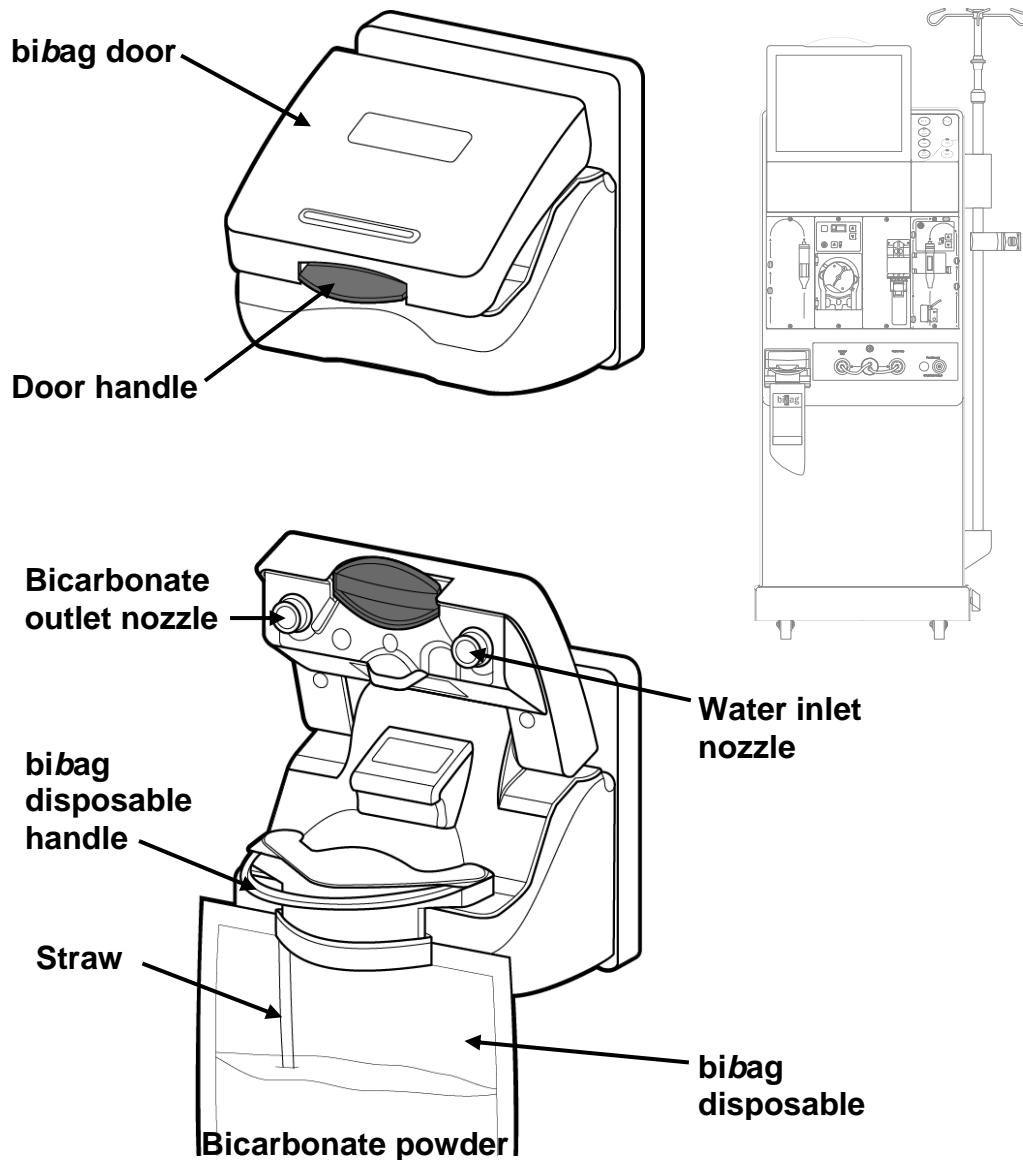

Figure 1 – *bi*bag connector: door closed and *bi*bag disposable inserted with door open
4. With the white *bi*bag handle facing outward (see Figure 1), hang the *bi*bag disposable on the *bi*bag connector nozzles.